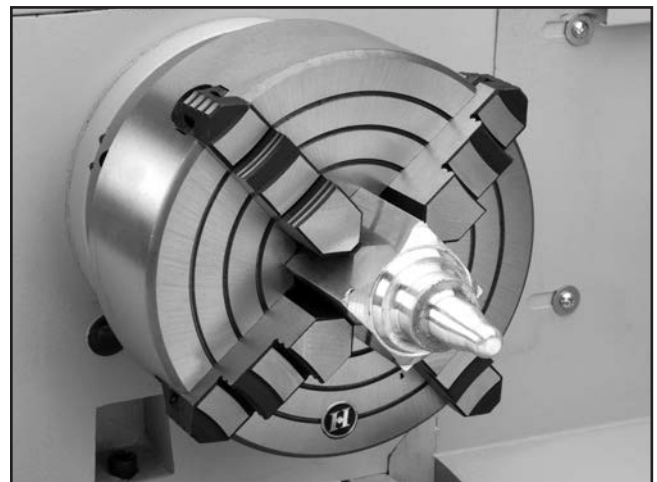

Figure 44. Example of non-cylindrical workpiece mounted in 4-jaw chuck.
6. After workpiece is secured by jaws (see **Figure 44**), use dial indicator to make sure workpiece is centered in chuck.